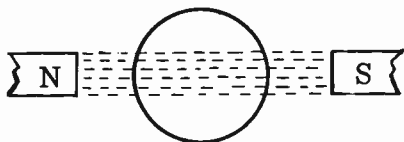
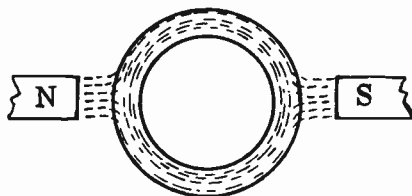

FIG. 3-8. NO SHIELDING.
FIG. 3-9. SHIELDING.
**SHIELDING.** If a non-magnetic object, such as a tennis ball, is placed in the path of a magnetic field, as shown in Fig. 3-8, the lines of force would pass right through the ball, just as light shines through a piece of glass. However, if the tennis ball were covered up with a thick layer of soft iron, the lines of force would flow through the soft iron and not through the center of the ball. The reason for this is that the soft iron offers much less resistance to the magnetic flux than the air does. This is illustrated in Fig. 3-9. Notice that the area in the center of the ball is now free of magnetic flux. The above example illustrates the principle of magnetic shielding which is so extensively used in electronic circuits.